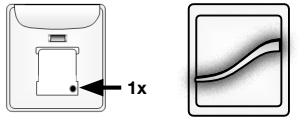

Fig. 18
A. Press and release the program button on the back side of the secondary control once (one tap). The LED will flash green to identify association mode. (Fig. 18)